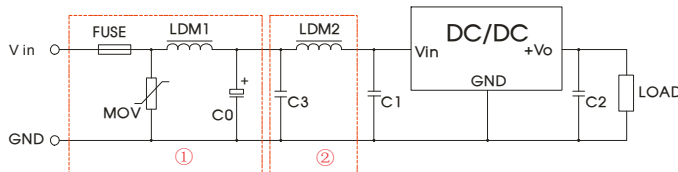

Fig. 4 Recommended EMC circuit
Note: Part ① in Fig. 4 shows EMS compliance filter and part ② filter for EMI compliance; depending on requirement both filters ① and ② can be used in series.